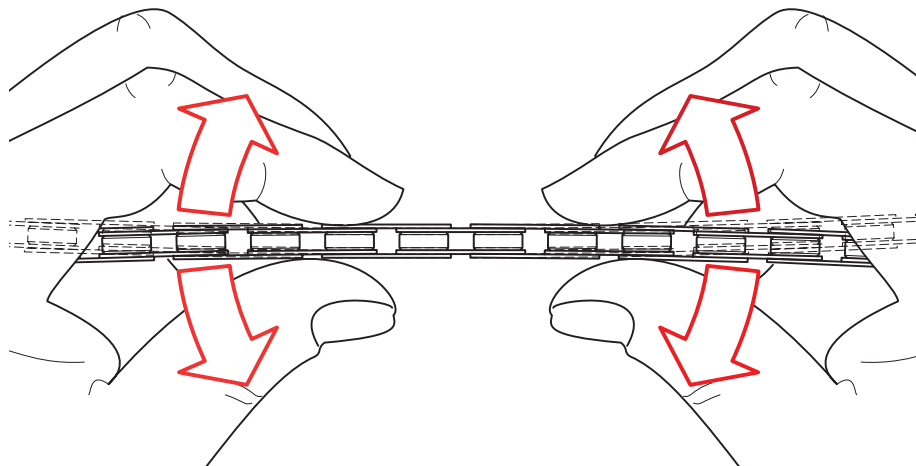

Fig.24
- Free the joints as required with delicate lateral bending of the links (Fig. 24).